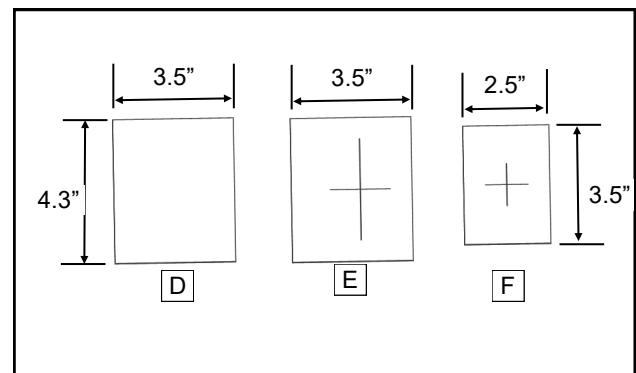

Fig. 3.2 (3 small floorboard fillers included in kit)
**3.4** Per figures 3.2 and 3.4, remove the backing from the "D" filler and adhere it to the floorboard, covering the large hole in the rear left of the floorboard.
**3.5** Per figures 3.2 and 3.5, remove the backing from the "E" filler and adhere it to the floorboard and over the lever in the rear right of the floorboard, with the slots in the filler closer to the center of the tractor
**3.6** Per figures 3.2 and 3.6, remove the backing from the "F" filler, place it over the lever at the front, right of the floorboard, and adhere it to both the floorboard and the center console.